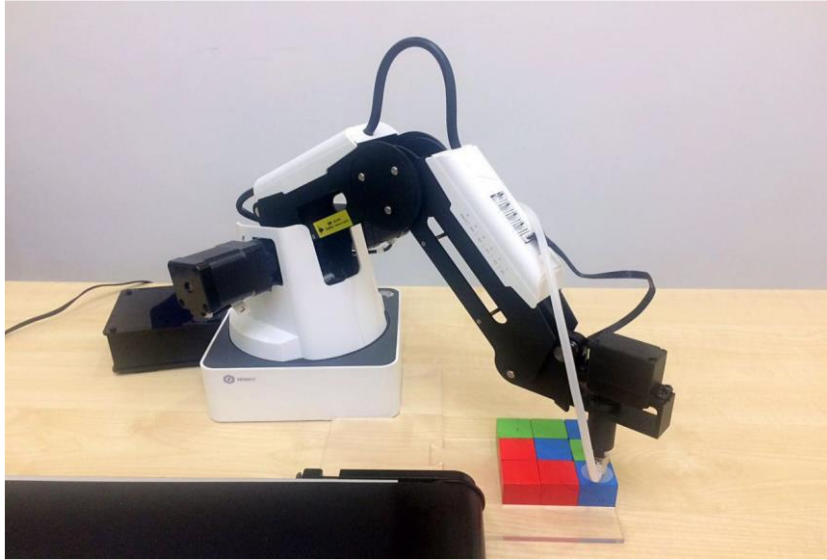

Figure 4.1 Picking position
1. Press and hold down the **Unlock** button on the forearm to move the Dobot 1 to make suction cup on the block. As shown in Figure 4.1.